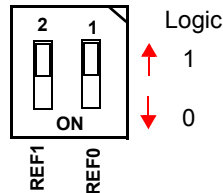

FIGURE 1. TYPICAL U2 DEFAULT SETTING 11 (1.500V)
4. Set the "REF Selection" DIP switch (U2) to 11 corresponding to DAC = REF = 1.5V. Figure 1 details the typical default configuration for U2 when the board is received. In this default setting, the evaluation board is set for a reference voltage of 1.5V.